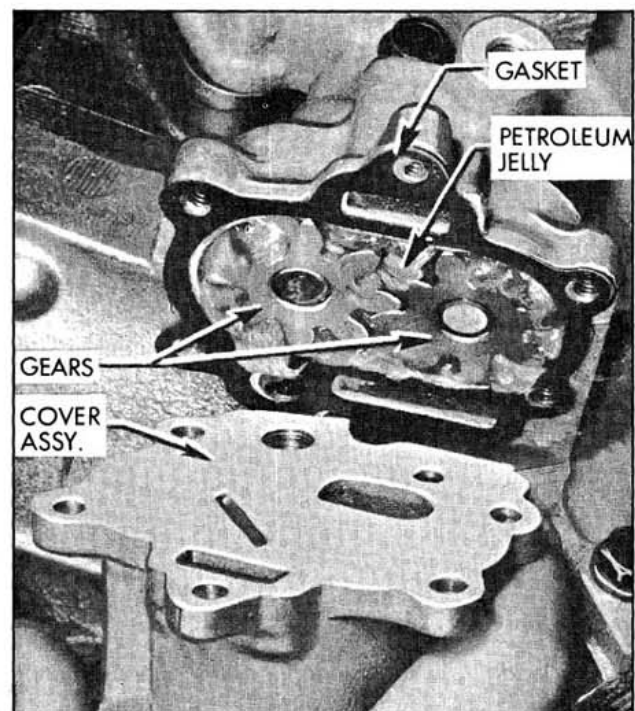

Fig. 3-25 Packing Oil Pump
5. Reinstall gears so petroleum jelly is forced into every cavity of the gear pocket and between the teeth of the gears. Place new gasket in position. (Fig. 3-25)